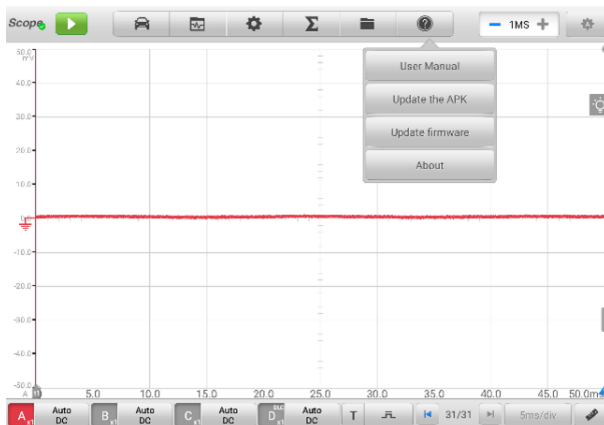

Figure 7-2 Help Screen
1. Tap the **Help** button on the upper toolbar of the screen. A dropdown menu displays. (See Figure 7-2 Help Screen.)